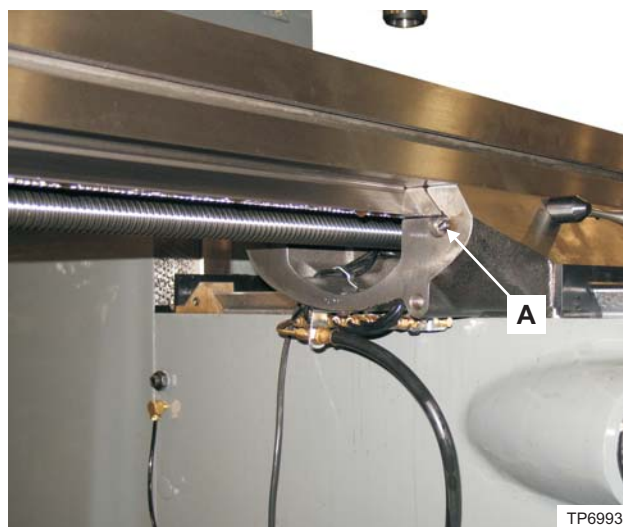

Figure 4.12 - Table Gib Adjustment Screw
- A) Adjust the gib by tightening gib screw "A", Figure 4.12, slightly until a slight drag is felt when moving the table by hand.